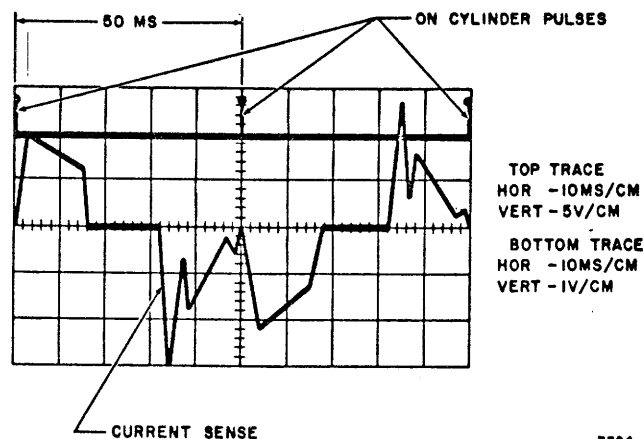

Figure 6-24. Velocity Gain Adjustment
The waveforms shown in Figure 6-24 will vary with the unit temperature. Therefore, to provide an accurate check, this procedure must be performed with the unit at ambient temperature. Do not perform this procedure unless card has been replaced or unit is not meeting access requirements.
9. Make oscilloscope sensitivity settings according to Figure 6-24.
Figure 6-24 is representative only of seeks commanded by the access tester. Seeks commanded by the controller show a center ON CYLINDER pulse approximately 24 ms long and a current sense near ground during the same period.
10. Compare the resulting trace to Figure 6-24. If the trace meets the requirement of the figure, disconnect oscilloscope; check is complete.